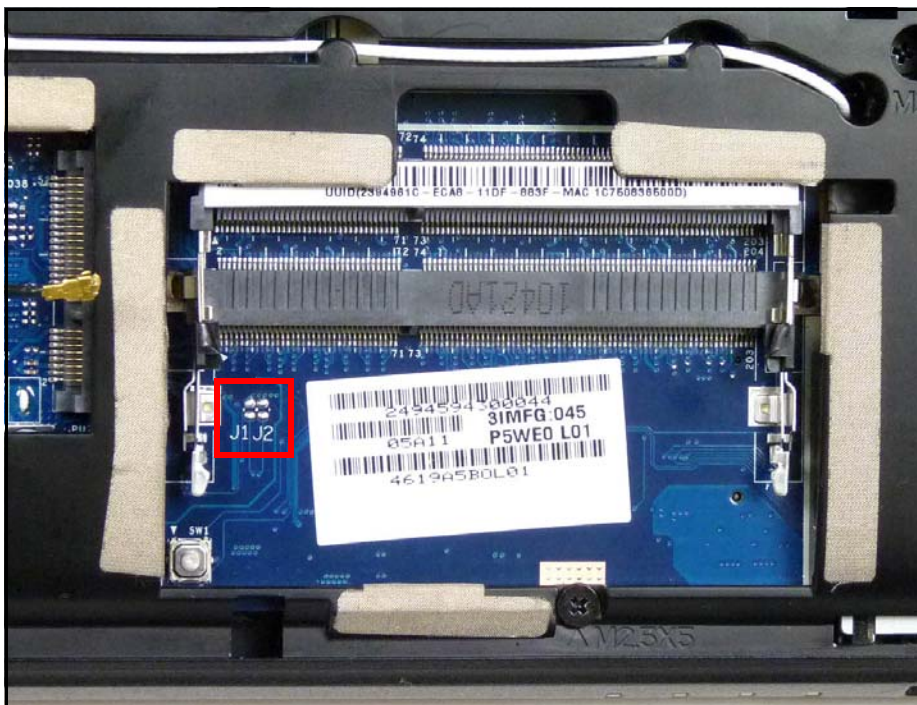

Figure 5-9. CMOS Jumper
5. Use an electric conductivity tool to bridge the two points of the jumpers. (Figure 5-9)